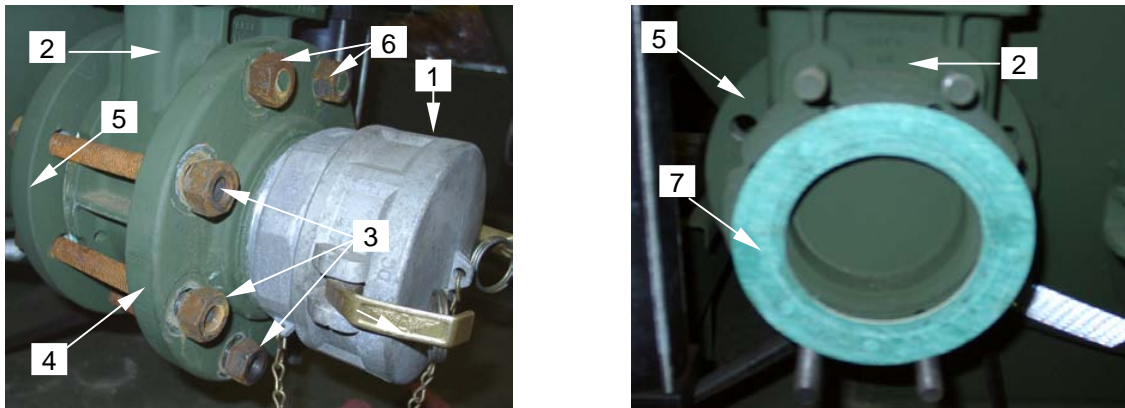

Figure 3. Removing Dust Cap and Front Flange/Gasket
4. Remove dust cap (**figure 3, item 1**) from drain valve (**figure 3, item 2**).
5. Remove six lower hex nuts and bolts (**figure 3, item 3**) securing front flange (**figure 3, item 4**) to rear flange (**figure 3, item 5**).
6. Remove two remaining hex nuts (**figure 3, item 6**) securing front flange (**figure 3, item 4**) to drain valve (**figure 3, item 2**)
7. Remove front flange (**figure 3, item 4**) from drain valve (**figure 3, item 2**)
8. Remove 4-inch gasket (**figure 3, item 7**) and discard.